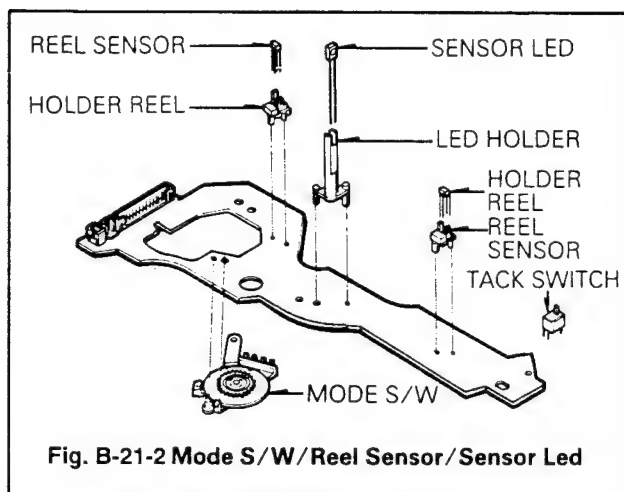

Fig. B-21-2 Mode S/W/Reel Sensor/Sensor Led
- 2) Remove two screws(A),(B) and then remove the Junction P.C.B Assembly.
- 4) Remove the Reel Sensors, Sensor LEDS and each holder from the Junction P.C.B(Fig. B-21-2).